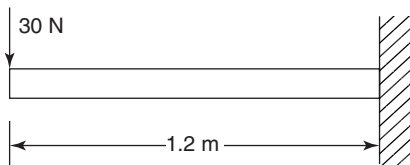

Figure 8.8
1. A cantilever of solid circular cross-section is subjected to a concentrated load of 30 N at its free end, as shown in Figure 8.8. If the diameter of the cantilever is 10 mm, determine the maximum stress in the cantilever.
2. If the cantilever of Figure 8.8 were replaced with a tube of the same external diameter, but of wall thickness 2 mm, what would be the maximum stress due to the load shown in Figure 8.8.